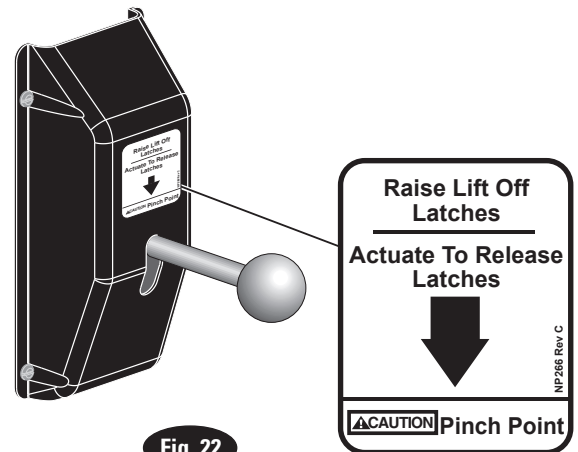

Fig. 22
23. **Latch Release Decal:** Install latch release decal on cover above latch release handle, Fig. 22.